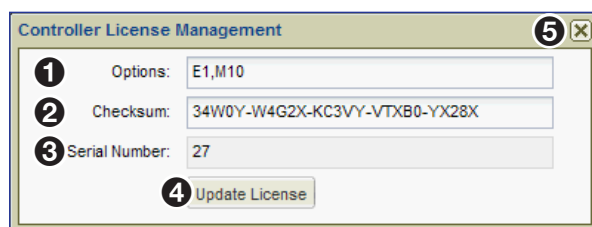

Figure 171. Controller License Management Dialog
The **Controller License Management** dialog box opens (see figure 171). Keep this window open.
- The **serial number** of the VNM EC 200 (see figure 171, ③). This can be obtained from the **Controller License Management** dialog, or from the rear panel.